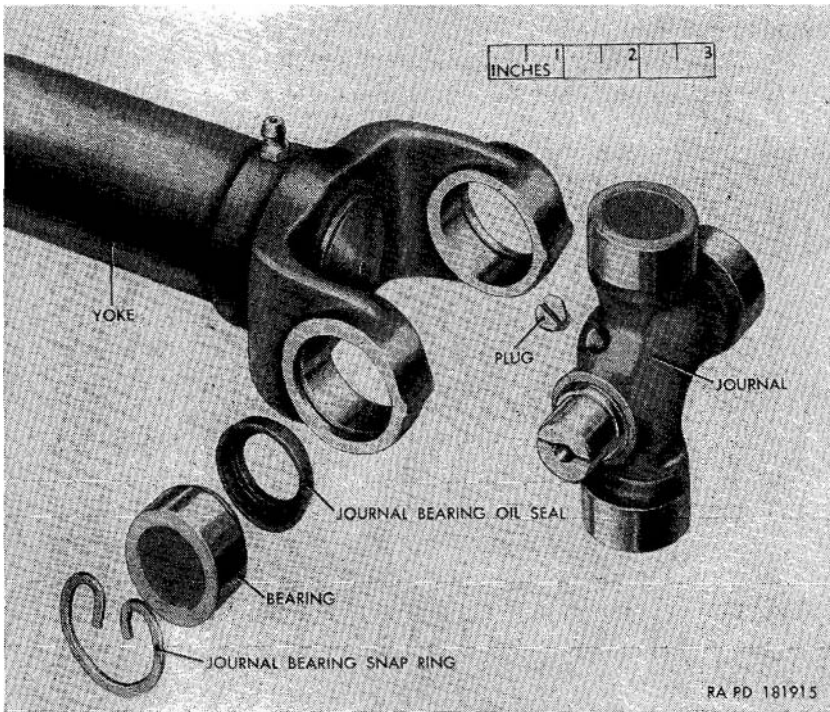

Figure 131. Front propeller shaft universal joint and yoke—partially exploded view.
a. *Front Propeller Shaft Universal Joints Disassembly* (fig. 131). Procedures for disassembly of both universal joints of the front propeller shaft with universal joints are the same.
- (1) Remove front propeller shaft with universal joints (par. 202a).
- (2) Remove the two loose journal bearings and oil seals from journal, being careful not to lose the rollers. Do not remove the plug.
- (3) Remove the two journal bearing snap rings from the yoke by squeezing the open ends of the ring together with pliers. Place a brass drift against the end of one of the bearings and drive the bearing into the yoke until the bearing on the opposite end of the journal is driven out of the yoke. Pull the protruding bearing and journal bearing oil seal from the
*b. Front Propeller Shaft Universal Joints Assembly* (fig. 131). Procedures for assembly of both universal joints of the front propeller shaft with universal joints are the same.
- (1) Push a journal bearing oil seal onto each of the two journal ends, convex side first. Insert the journal into the yoke holes.
- (2) Carefully start the two bearings onto the journal ends and into the yoke holes. Using a brass drift, carefully tap the bearings in until their outer ends are just inside the snap ring grooves in the holes. Install the two journal bearing snap rings by squeezing the ends together with pliers.
- (3) Push a journal bearing oil seal onto each of two journal ends, convex side first. Push a bearing onto each journal end.
- (4) Install the front propeller shaft with universal joints (par. 202b).